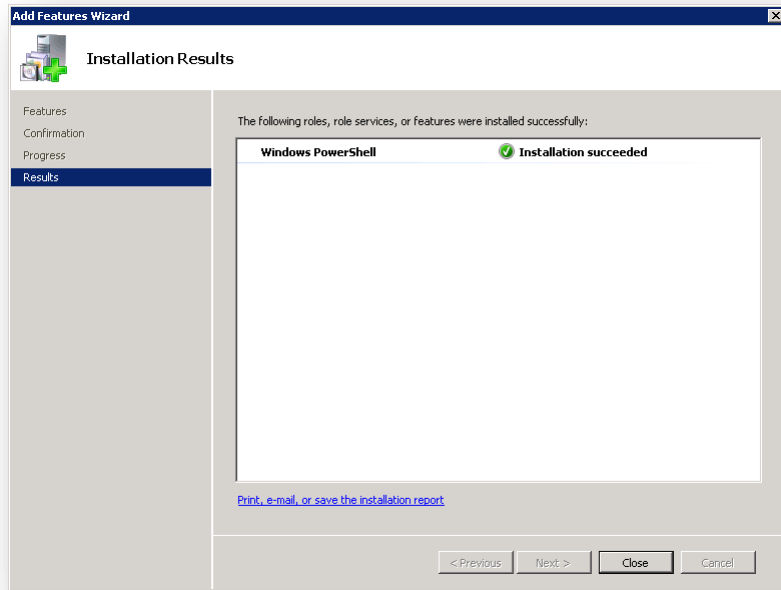

Figure 10 – Add Features Wizard (Installation Results)
15. When installation is complete, click **Close**. See Figure 10.